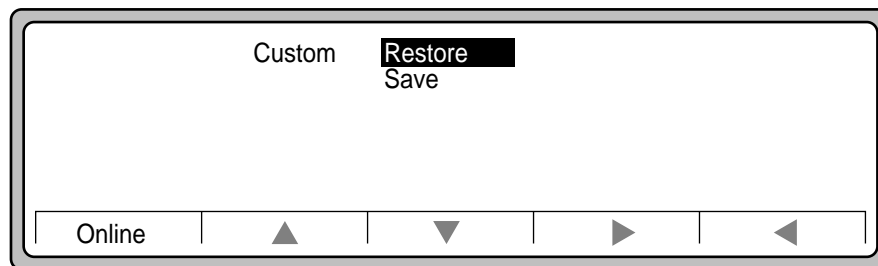

Figure 2-10 Custom Menu
1. On the Main Screen, press Custom to display Figure 2-10:
- 3. Use ▲ or ▼ to highlight the Save or Restore (Figure 2-10).